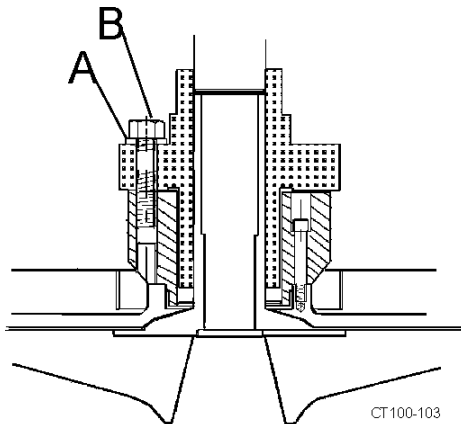

Figure 59 - Fasten Seal Unit in Place
7. Install the cartridge seal unit and use retaining bolts (Figure 59, item B) and flat washers (Figure 59, item A) to secure unit to the cartridge adapter. Make sure to not tighten the retaining bolts yet.